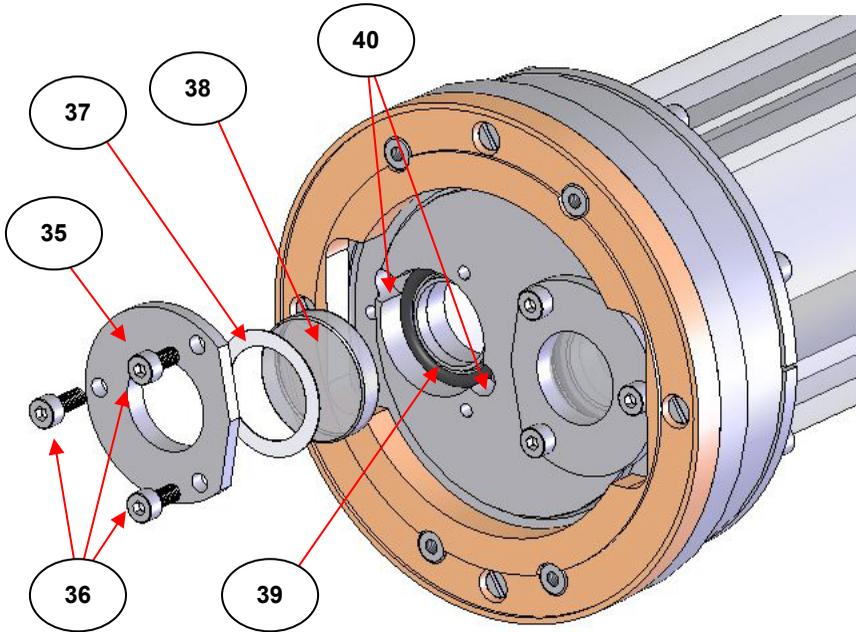
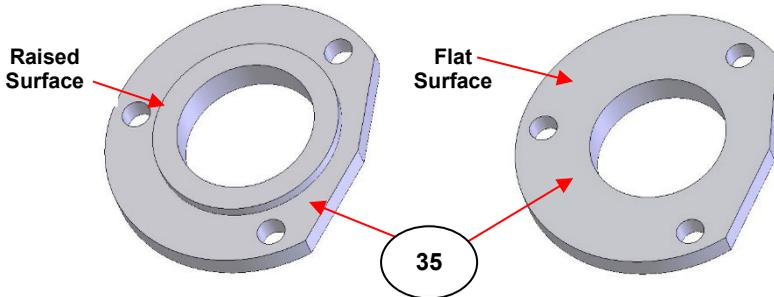

Fig 23. Window Assembly of Parts Separated at the Base of the Cyclone™ C5 Gas Cell
Fig 24. Cyclone™ C5 Window Flange Clamp Plate
Note: For the purposes of explanation, Figs 23, 24 and 25 show the C5 cell which are representative of the C10 cell too.
The window clamp plate (35) for the C5 and C10 size gas cells has two different surfaces. (See Fig 24.) One side has a raised surface and the other side is flat. (This is different to the C2 window clamp plate (29) – see page 33). In the construction of the window assembly of parts seen at Fig 23, the flat surface for the clamp plate (35) is seen to be on the outermost side. This means that for this shown sequence of assembly of parts, the **raised** surface of the clamp plate (35) is in contact with the PTFE washer (37) for clamping and sealing a thinner CaF2 (**C**) or ZnSe (**Z**) window (38) into position. If a thicker KBr (**K**) window (38) is being clamped into position, then the **flat** surface of the clamp plate (35) must be in contact with the PTFE gasket (37).